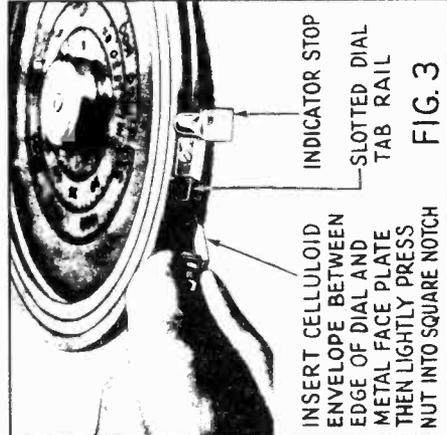

FIG. 3
5. SET THE METAL TAB HOLDERS ON DIAL BY: (See Fig. 3)